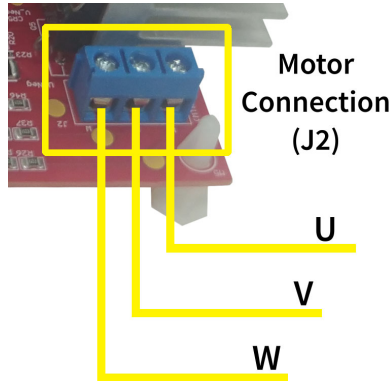

Figure 10. ECS640A EVA BLDC Motor Connection (J2)
Step 8: Connect 3-phase motor wiring to ECS640A EVB J2 following phase sequence depicted on PCB silkscreen. See Figure 10 for details.